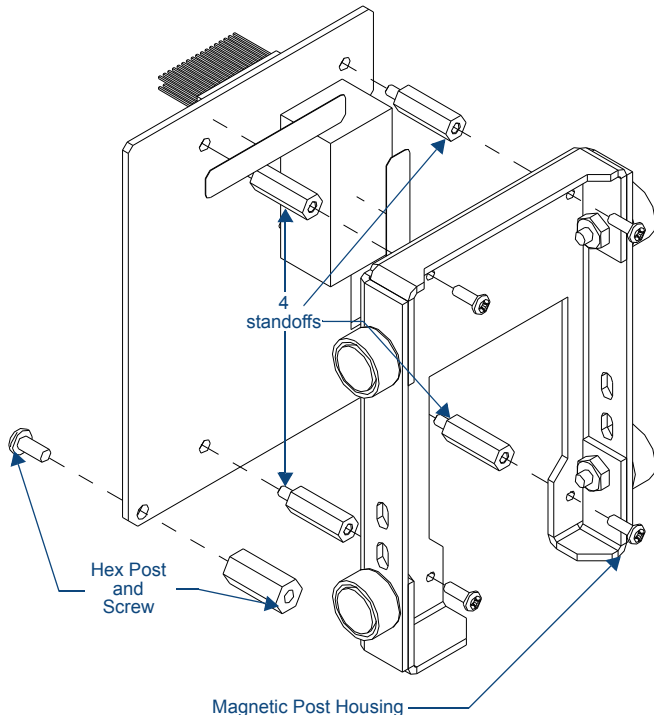

FIG. 4 4 Standoffs and Hex Post locations
5. Place the hex post over the hole illustrated in FIG. 4 and fasten it down with the screw on the bottom side of the board.